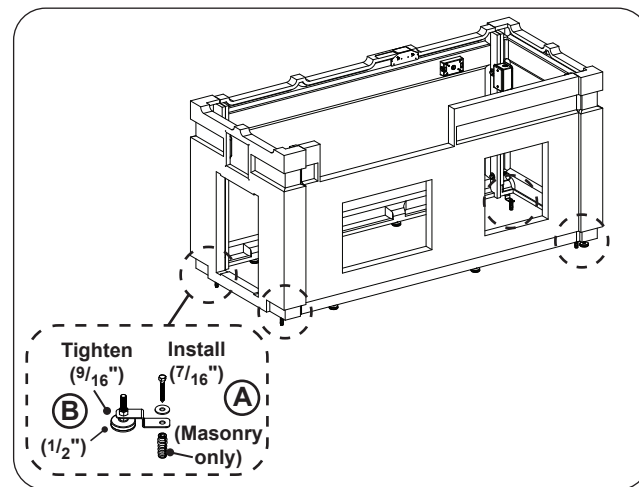

Fig. 8-3 Mount island
1. Secure the island to the floor using the 4 pre-installed mounting brackets. Use a $\frac{7}{16}$ " open end wrench and the supplied mounting hardware as appropriate. See Fig. 8-3, A.
Finish by tightening down the brackets. Hold a leveler in place (below bracket) with a $\frac{1}{2}$ " open end wrench, and tighten the nut (above bracket) using a $\frac{9}{16}$ " open end wrench. See Fig. 8-3, B.